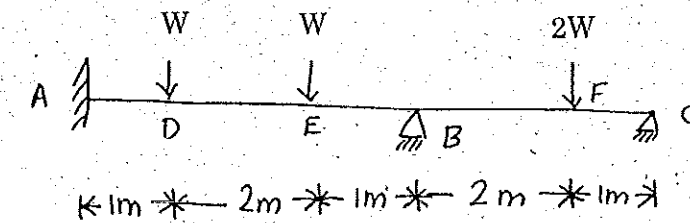

Fig. Q. 15(b)
- (b) Determine the collapse load of the beam load as shown in Fig. Q. 15(b).